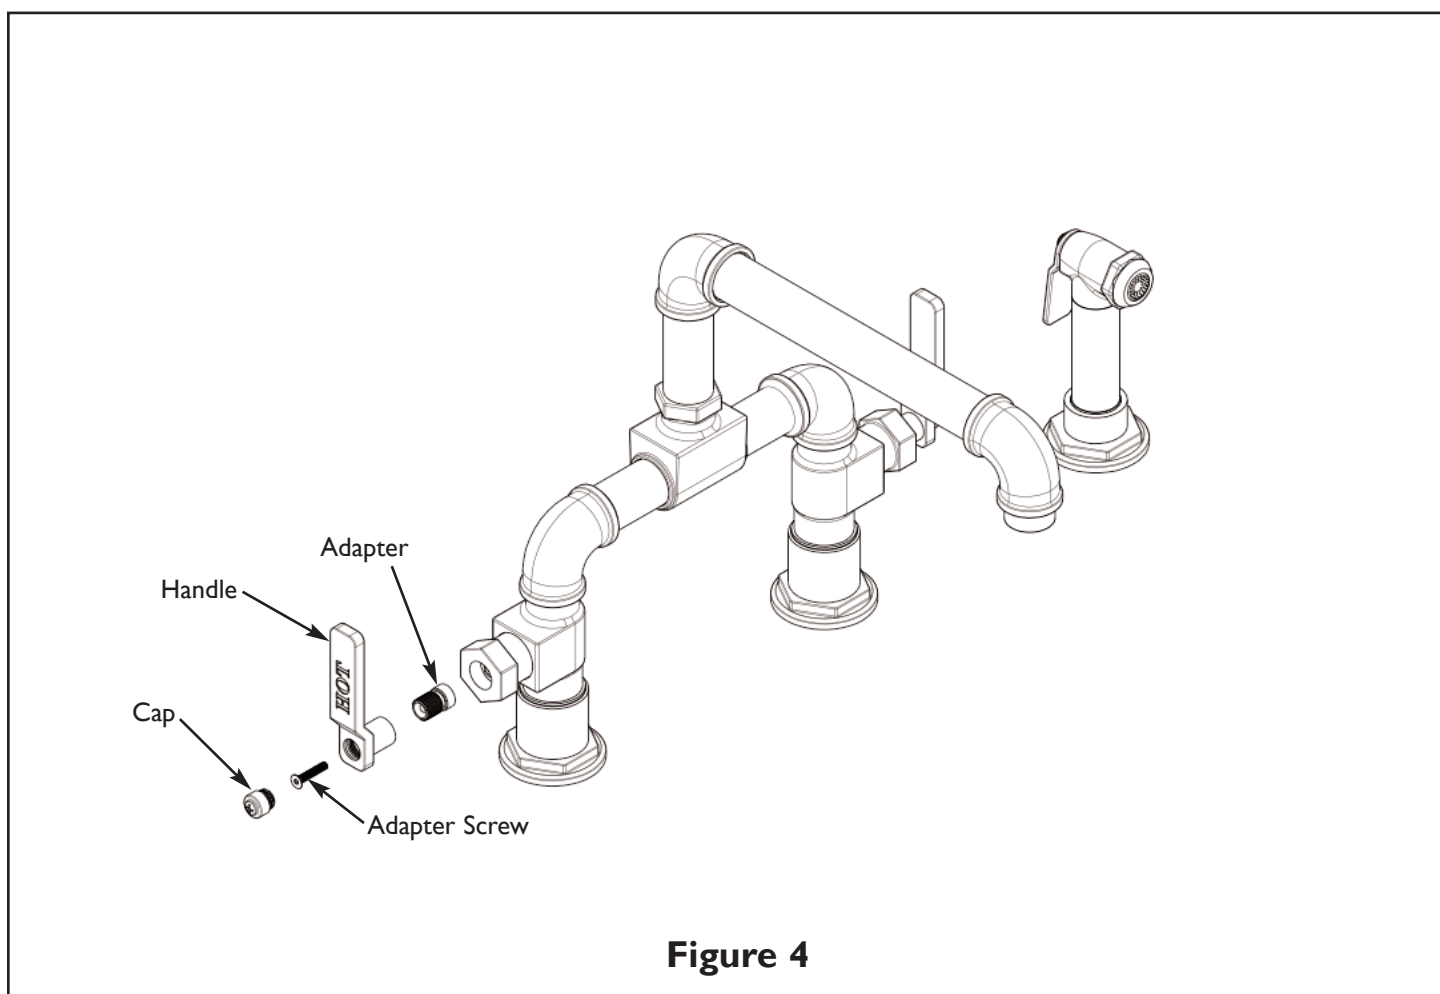

Figure 4
1. In **Figure 4**, ensure cartridges in full closed position and check **HANDLE** alignment. If the **HANDLE** is not correctly aligned, temporarily remove the **CAP**, **HANDLE** and rotate **CARTRIDGE ADAPTER** one tooth clockwise, reassemble the **HANDLE** and recheck alignment. Repeat until the **HANDLE** is aligned and secure the **HANDLE** in place with **ADAPTER SCREW**.